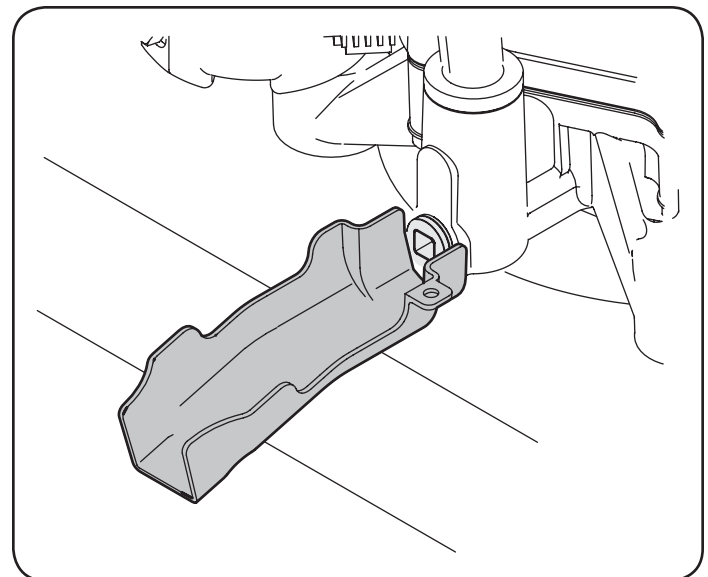

Figure 11
2. Open the tractor's hood and locate the oil drain port on the right side of the engine. See Figure 11.
6. Snap the small end of oil drain sleeve onto the space provide around the oil drain plug. See Figure 11.
1. Locate the fuel filter, see Figure 11, which is routed on the left side of the engine between the fuel tank and the carburetor, and may be attached to the engine with a tie strap. Cut the tie strap, if present, then pinch the tabs on the in-line clamp on the fuel filter with a pair of pliers, slide the clamp up the fuel line. Pull the fuel line free from the filter and place the open end of the line into an approved container to drain the fuel.